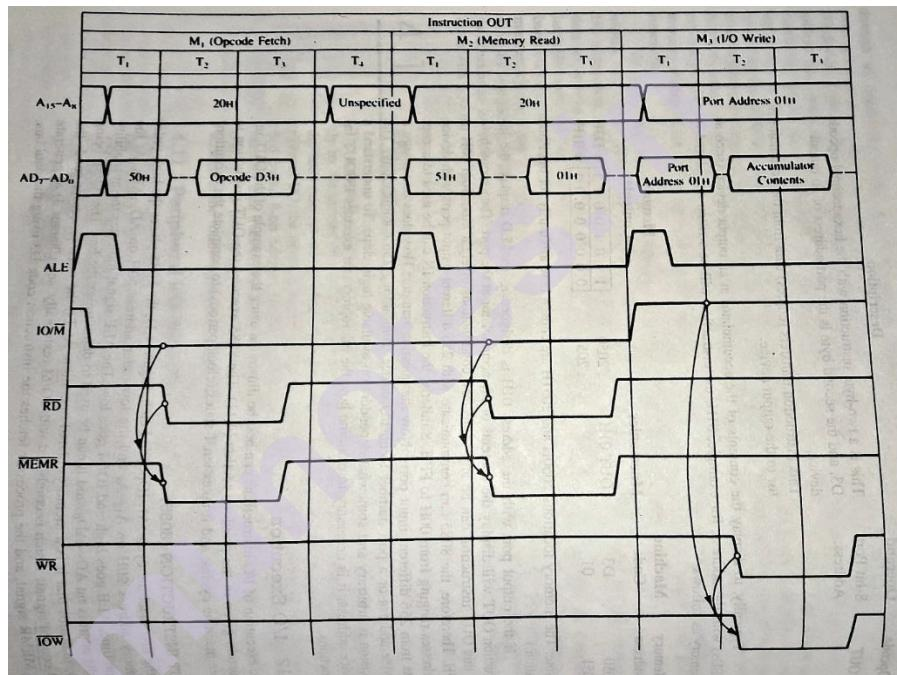

Figure 4.1 : 8085 Timing for Execution of OUT Instruction
In the first machine cycle, M₁ (Opcode Fetch, Figure 4.1) the 8085 places the high-order memory address 20H on A₁₅-A₈ and the low-order address 50H on AD-AD₀. At the same time, ALE goes high and IO/ M goes low. The ALE signal indicates the availability of the address on AD₇-AD₀, and it can be used to demultiplex the bus. The IO/M, being low, indicates that it is a memory-related operation. At T₂, the microprocessor sends the \overline{RD} control signal, which is combined with IO/M (externally, to generate the \overline{MEMR}) signal, and the processor fetches the instruction code D3 using the data bus.
Figure 4.1 shows the execution timing of the OUT instruction. The information necessary for interfacing an output device is available during T₂ and T₃ of the M₃ cycle. The data byte to be displayed is on data bus, 8- bit device address is available on the low- order as well as high-order address bus, and availability of the data byte is indicated by the \overline{WR} control signal. The availability of the device address on both segments of the address bus is redundant information; in peripherals I/O, only one segment of the address bus (low or high) is sufficient for interfacing. The data byte remains on the data bus only for two T- states, then the processor goes on to execute the next instruction. Therefore, the data byte must be latched now, before it is lost, using the device address and control signal
The objective of interfacing an output device is to get information or a result out of the processor and store it or display it. The OUT instruction serves that purpose; during the M_3 cycle of the OUT instruction the processor places that information (accumulator contents) on the data bus. If we connect the data bus to a latch, we can catch that information and display it via LEDs or a printer. Now the questions are : (1) When should we enable the latch to catch that information ? and (2) What should be the address of that latch ? The answers to both questions can be found in the M_3 cycle (Figure 4.1) . The latch should be enabled when IO/M is high and \overline{WR} is active low. Similarly, the address of an output port is also on the address bus during M_3 (it is 01H in figure 4.1) . Now the task is to generate one pulse by decoding the address bus ($A_7 - A_0$ or $A_{15} - A_8$) to indicate the presence of the port address we are interested in, generate a timing pulse by combining IO/M and \overline{WR} signals to indicate that the data byte we are looking for is on the data bus, and use these pulses (by combining them) to enable the latch. These steps are summarized as follows. (For all subsequent discussion, the bus $A_7 - A_0$ is assumed to be that demultiplexed bus $AD_7 - AD_0$).